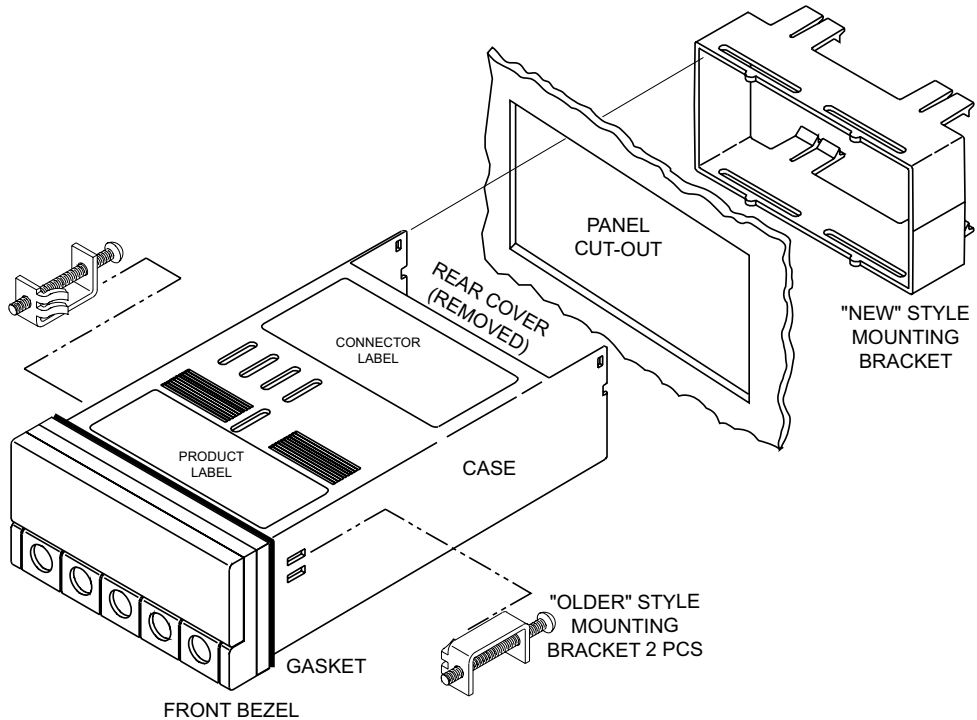
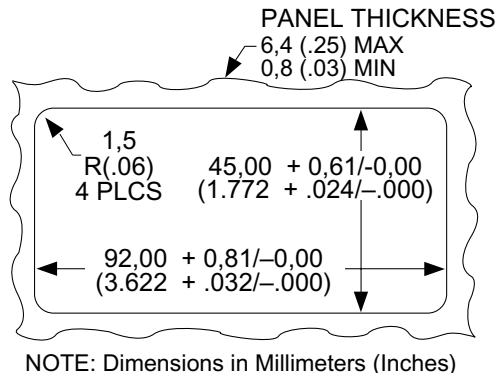

Figure 3-4. Meter - Exploded View
Figure 3-5. Panel Cut-Out
This label is located on top of the meter housing (refer to Figure 3-4).
1. Cut a hole in your panel, as shown in **Figure 3-4**. For specific dimensions refer to **Figure 3-5**.